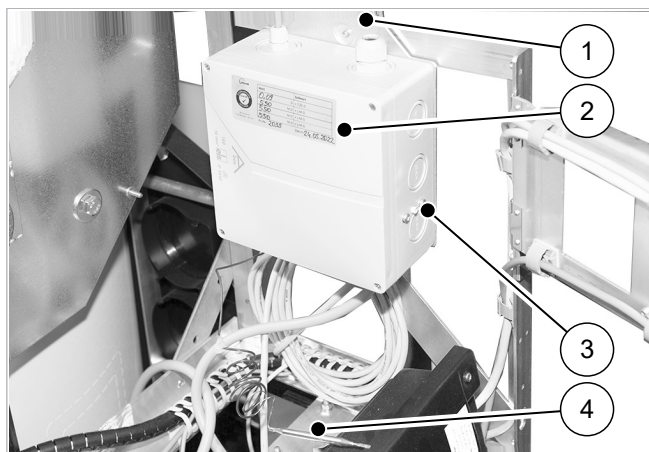

Fig. 8: Connection box for heating cartridge, fitted
1. Push the safety temperature limiter (4, → fig. 8) into the sleeve of the heating cartridge and secure it with the spring connector supplied.